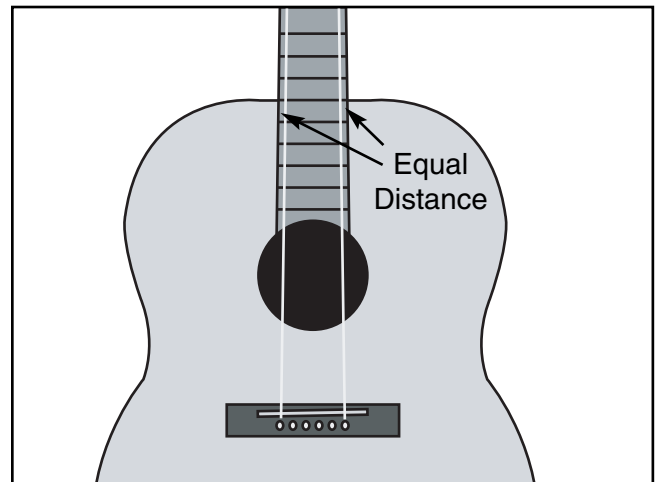

Figure 9. Positioning the bridge across the width of the guitar.
5. Adjust the bridge so there is an equal amount of space between the fingerboard edges and the threads (**Figure 9**).